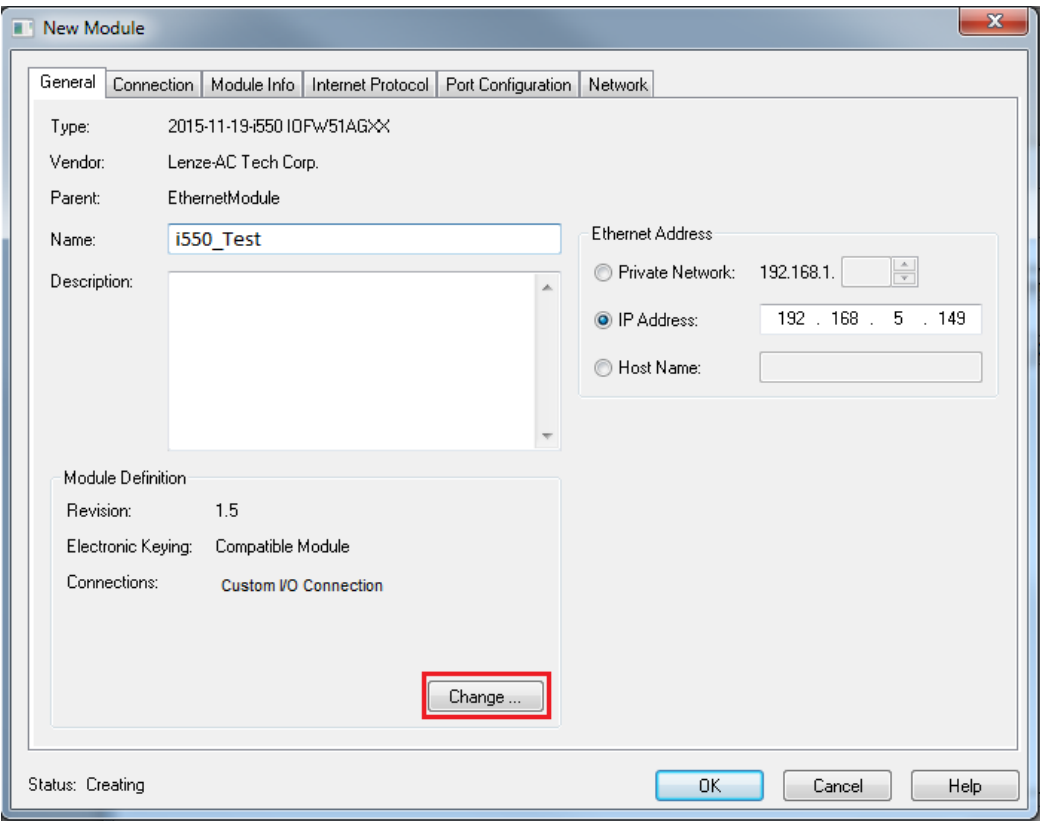

Figure 11: New Module Settings
- c. Custom I/O connection (bold indicates a change from default). See Figures 11 - 14.